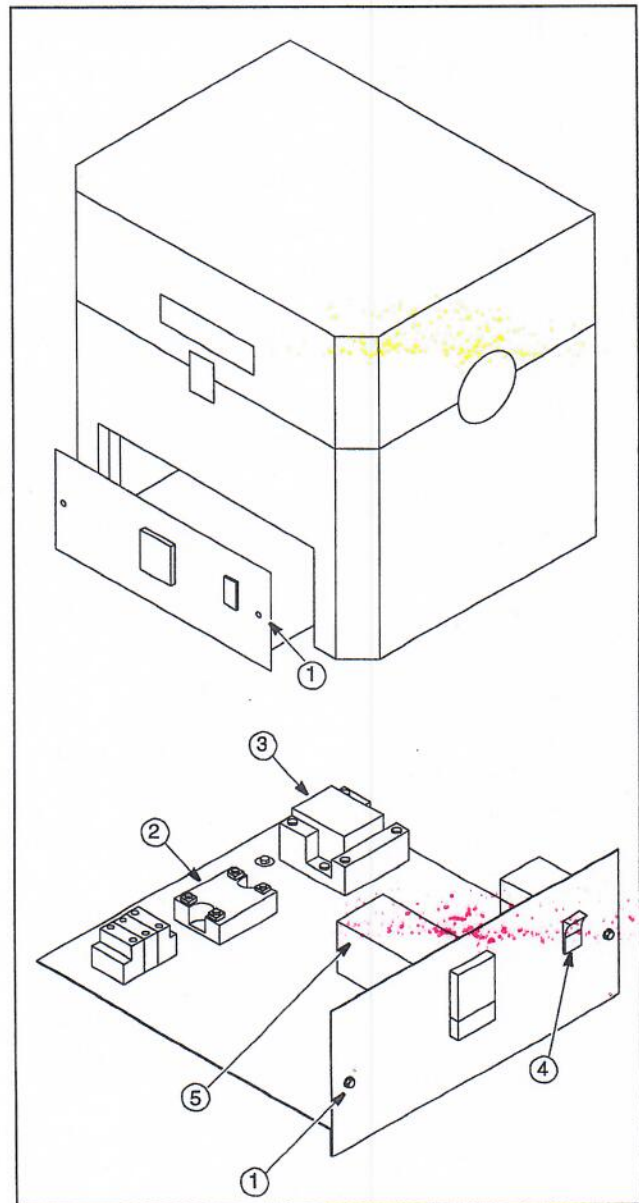

Figure 5. Solid State Relay Replacement
Refer to the Troubleshooting section for relay testing. If the solid-state relay is inoperable, complete the following steps to replace the relay (refer to Figure 5):
1. Remove the screws located on the left and right sides of the control panel (#1 in Figure 5).
3. Locate the solid-state relay on the component tray (#2 in Figure 5).
Refer to the Troubleshooting section for power relay testing. If the power relay is inoperable, complete the following steps to replace the relay (refer to Figure 5):
1. Remove the screws located on the left and right sides of the control panel (item #1 in Figure 5).
3. Locate the power relay on the component tray (item #3 in Figure 5).
To replace the temperature controller, complete the following steps (refer to Figure 5 on page 16):
1. Disconnect main power and switch the circuit breaker (#4 in Figure 5 on page 16) to the OFF position.
2. Remove the two sheet metal screws located on each side of the furnace near the lower front (#1 in Figure 5 on page 16). Pull the control panel forward to access the controller (#5 in Figure 5 on page 16).